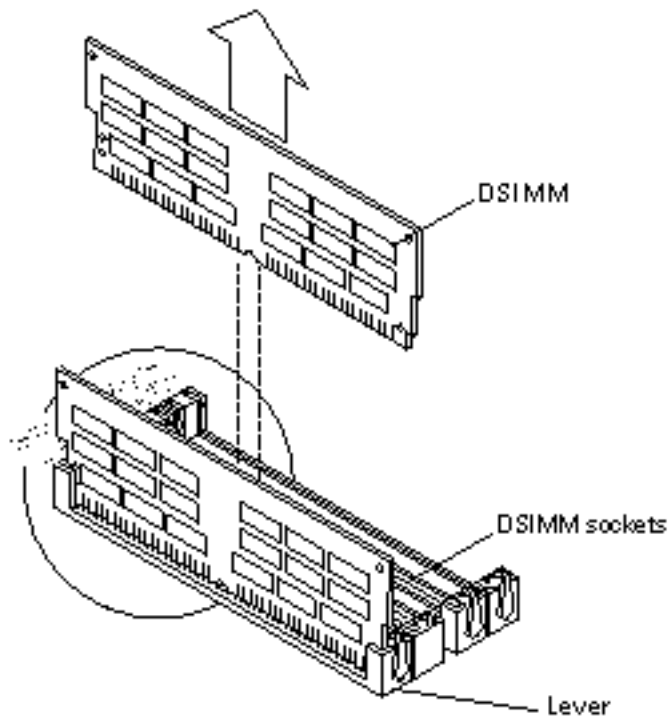

Figure 2-22 Removing a DSIMM
1. Locate the DSIMM that you want to remove on the system board (Figure 2-22).